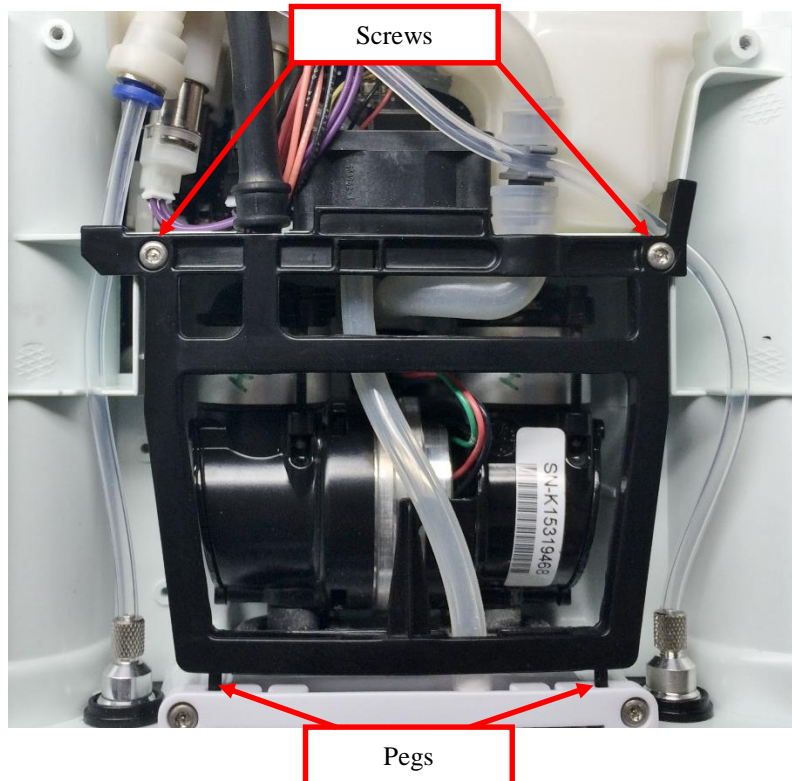

Figure 3: Tube Bracket and Muffler Assembly
3. Remove the two screws holding in the Tube Bracket and Muffler Assembly. Then slide the bracket pegs out of the chassis (Figure 3).